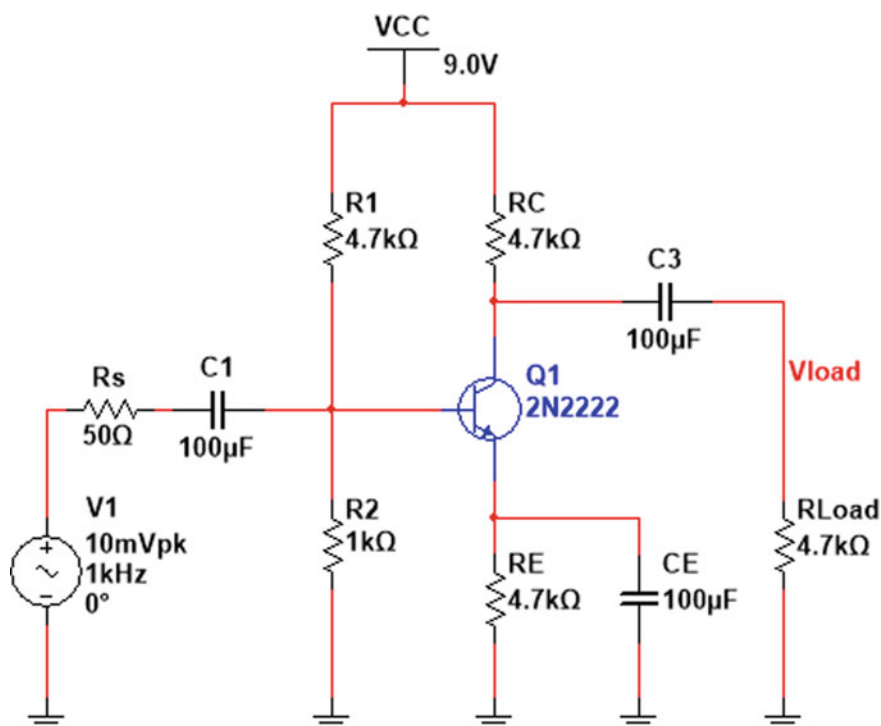

Fig. 2.301 Circuit for Exercise 3
3. Measure the maximum output voltage swing for the circuit shown in Fig. 2.301.